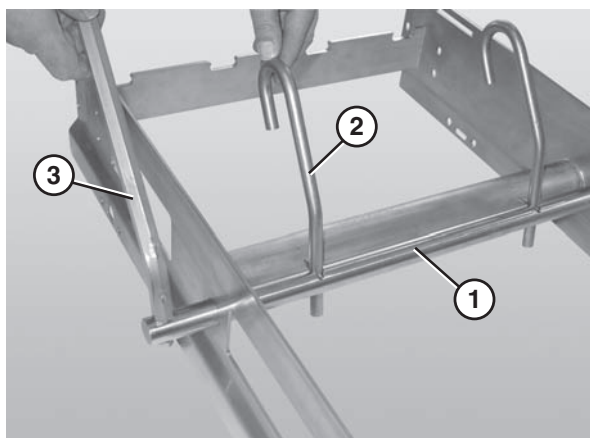

Figure 29
1. Slide the belt lift pivot bar (**Figure 29, item 1**) through the designated holes in the frame.
2. Attach the lifter bars (**Figure 29, item 2**) to the belt lift pivot bar (**Figure 29, item 1**). Make sure the hooked ends of the lifter bars are facing down when resting against the frame.
3. Attach the lifter handle (**Figure 29, item 3**) to the belt lift pivot rod.